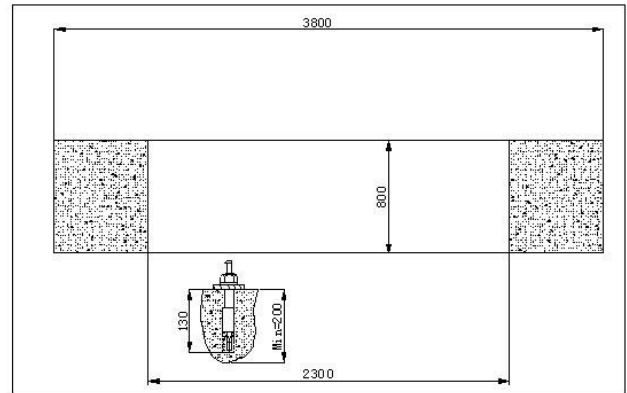

Fig. 29
- ◆ Install the screw according to *Fig. 29*.